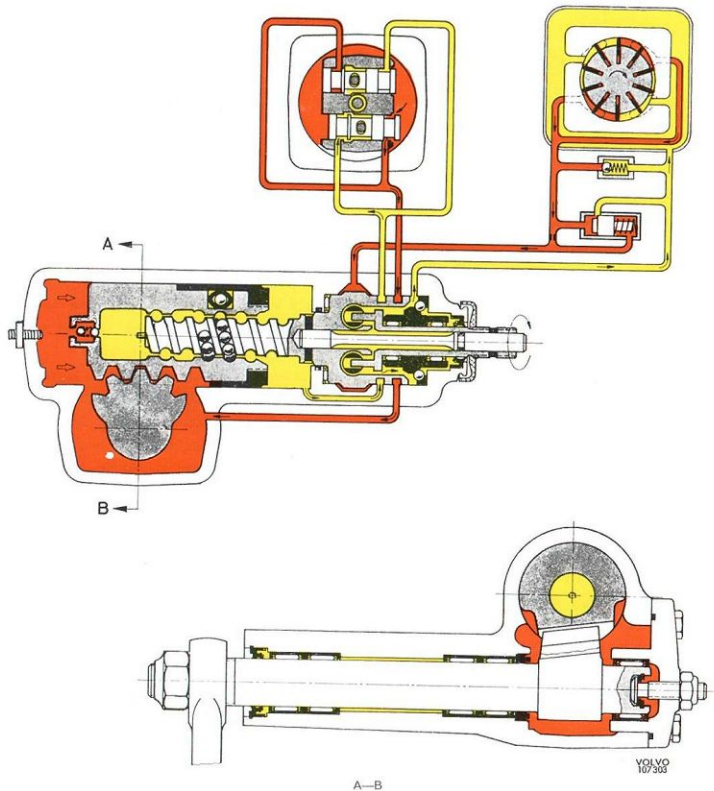

Fig. 6-46. Function, right-hand turn
The pitman arm shaft (20) is journalled in the steering housing and side cover by means of needle bearings, see Fig. 6-46. Sealing between the valve housing and the upper section of the housing as well as between the intermediate piece and steering cam is catered for by O-rings and plastic rings. The steering gear reduction ratio is 15.7:1.
Turning the steering wheel to the right (see Fig. 6-46) will screw the piston (2) to the right on the figure. The control valve (10) is displaced to the right and permits oil under pressure to pass to the annular groove (18) of the valve housing and from there on to the left-hand side of the cylinder. Oil under pressure also flows to the return groove (7) which, however, is closed so that oil pressure on the left-hand side of the operating piston (2) rises and facilitates the turning of the lever shaft. Oil at the right-hand section of the cylinder is pressed by the piston via the annular groove (19) through the return groove (6) of the control valve (10) back to the oil reservoir (13).
The space in the intermediate piece is oval, see Fig. 6-46. This permits the area between the rotor, the wall of the intermediate piece and two of the vanes to alter when the rotor rotates. When a couple of vanes are moved from the suction side to the pres-